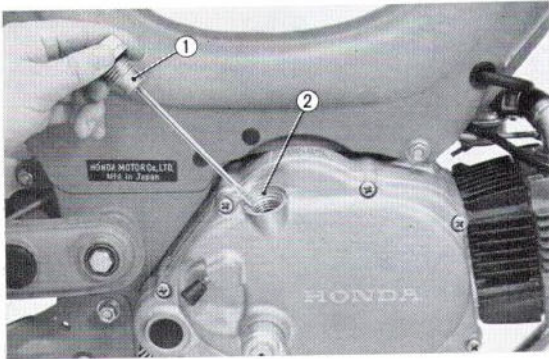

Fig. 1.1
2. Reinstall the drain plug securely and refill the crankcase with new engine oil. (Fig. 1.1, 2)